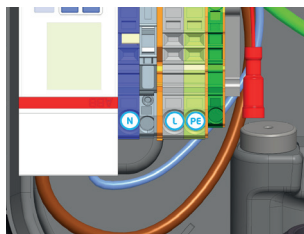
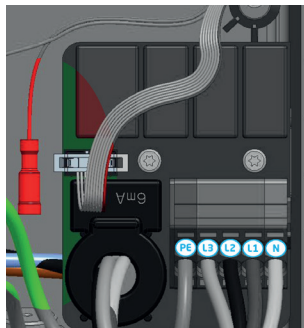

Figure 8a: Connection clamps power and Control Pilot (CP) connector for the charging cable (red) to S-line
Figure 8b: Connection clamps power and Control Pilot (CP) connector for the charging cable (red) to Pro-line
5. Attach the power cables to the connection clamps of the filter block (see figure 8a and 8b).
10. Attach the Control Pilot (CP) connector to the red connection cable. This is right next to the connection terminal for the power cables. See figure 8a (S-line) and figure 8b (Pro-line).